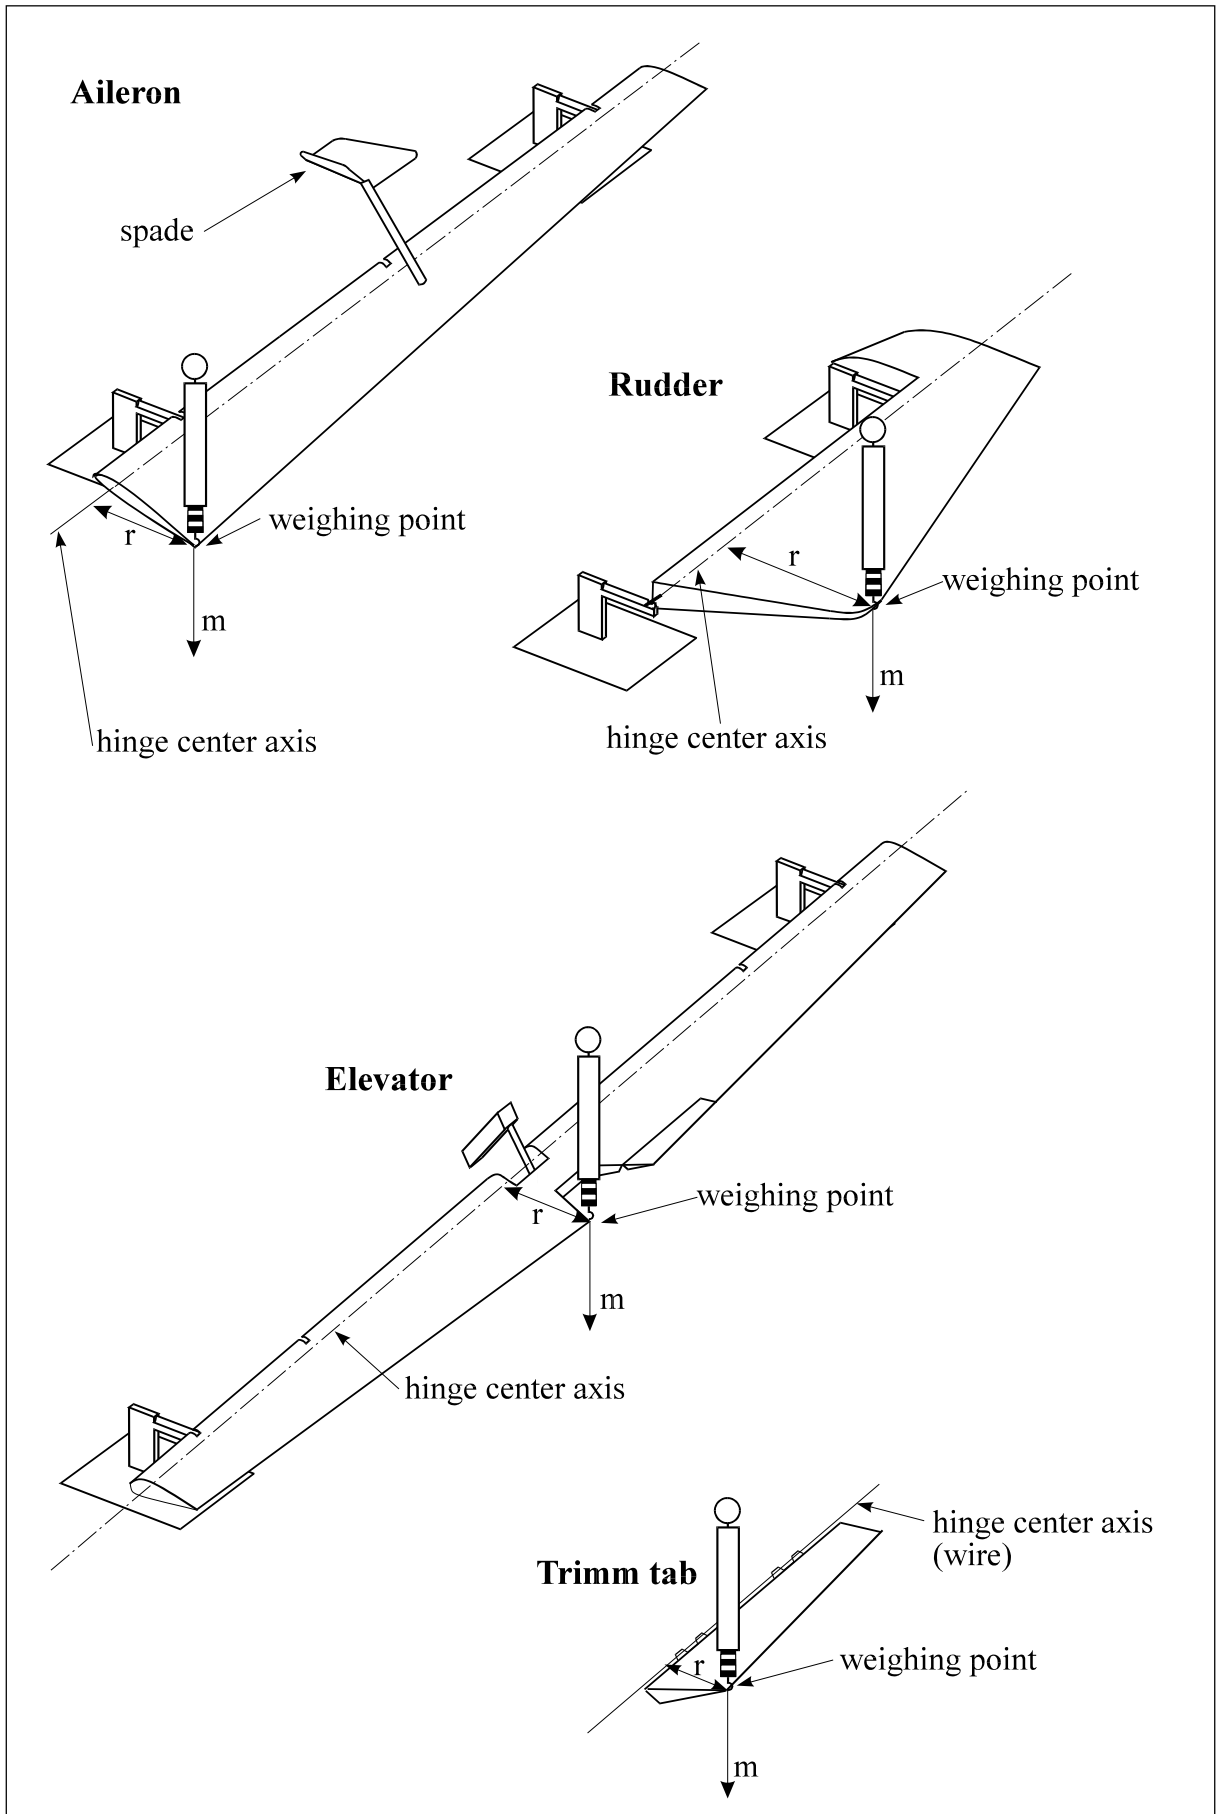
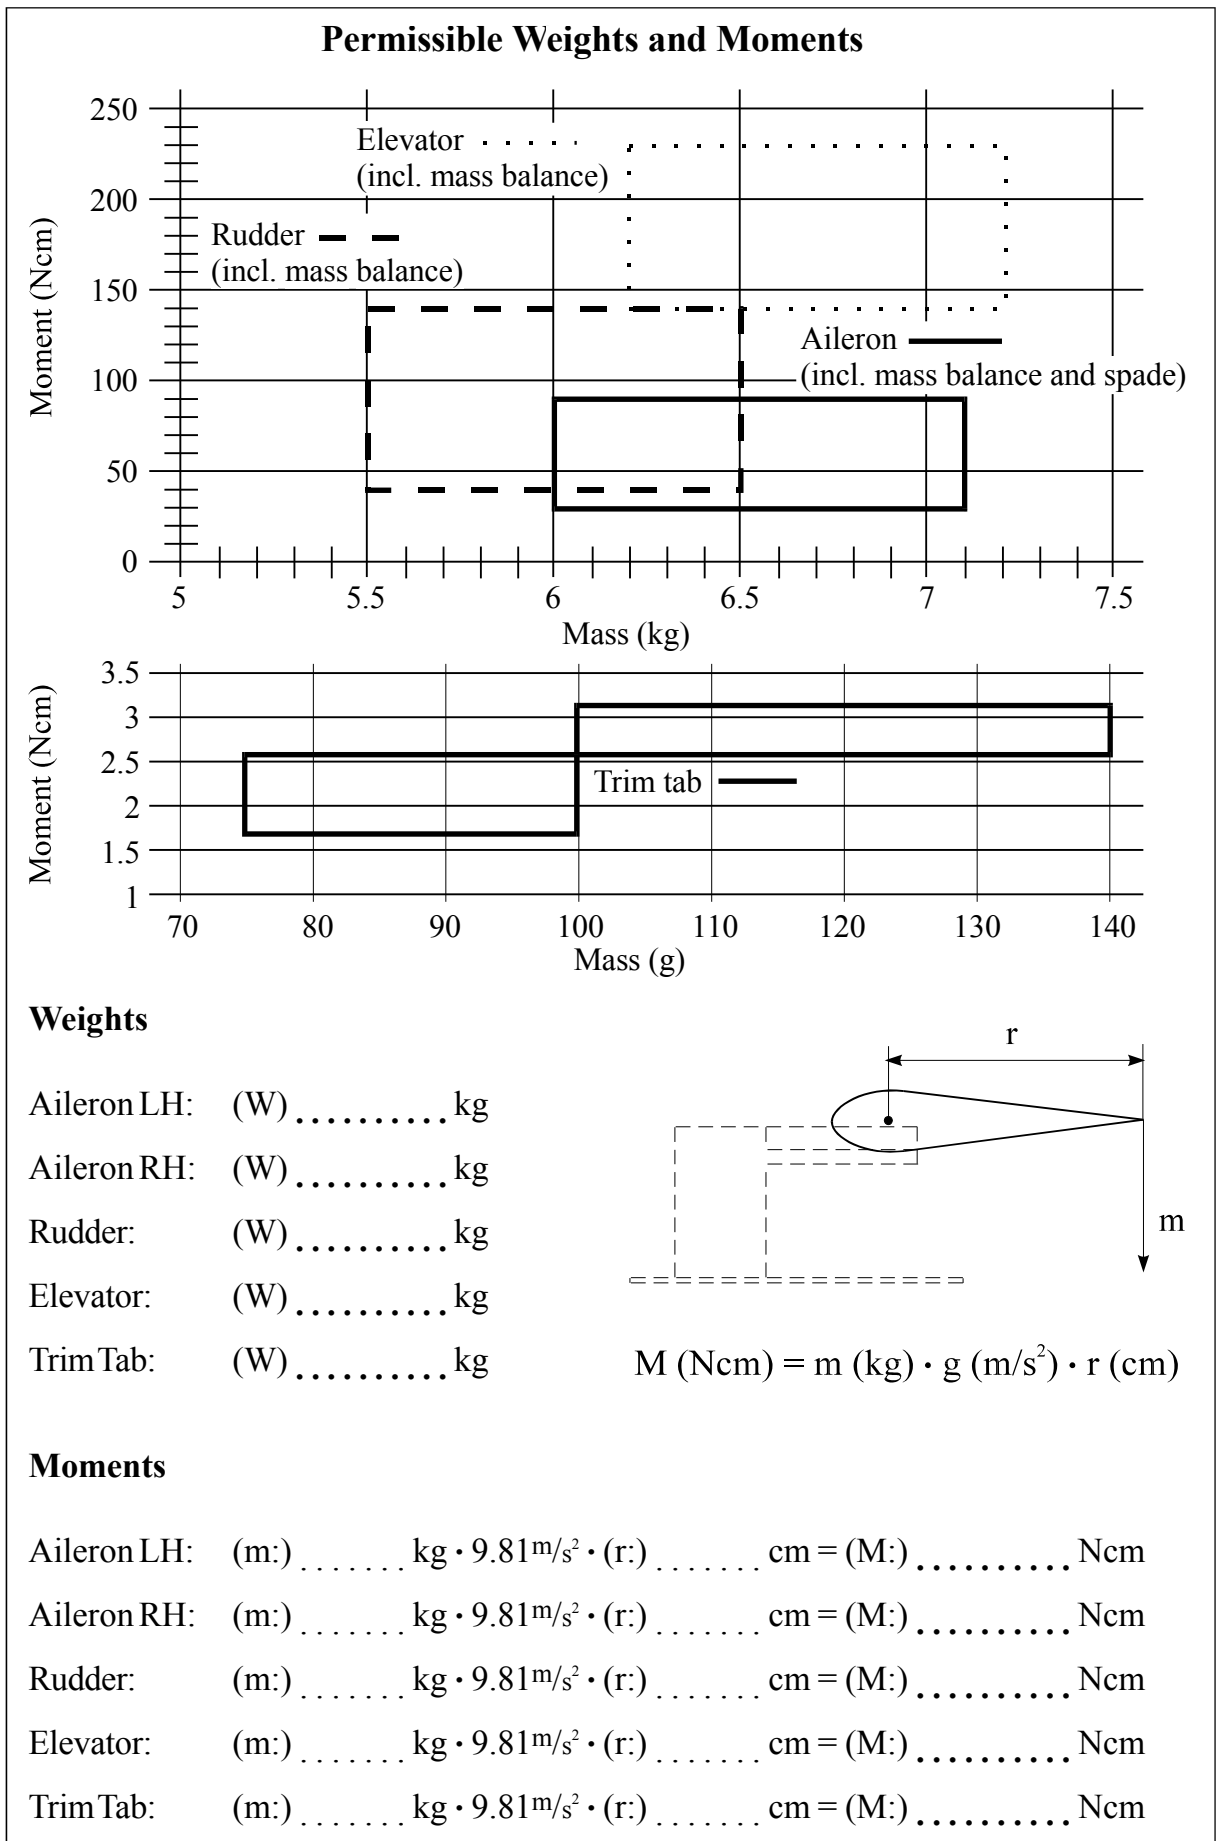

Figure 3
Figure 4 Control Surface Weights and Moments
- 4 Weigh by means of a conventional spring balance (kg/g-indication) at the given weighing points (Figure 3) and enter the weight (m) in Figure 4.
- 5 Measure distance of hinge center line to weighing point (r) and enter the value in Figure 4.
- 6 Calculate the control surface moment (M) in Figure 4.
If values exceed the given tolerances in Figure 4 contact the manufacturer before beginning any changes of control surfaces.
- Apply the thermal curing cycle.(Refer to Figure 3)